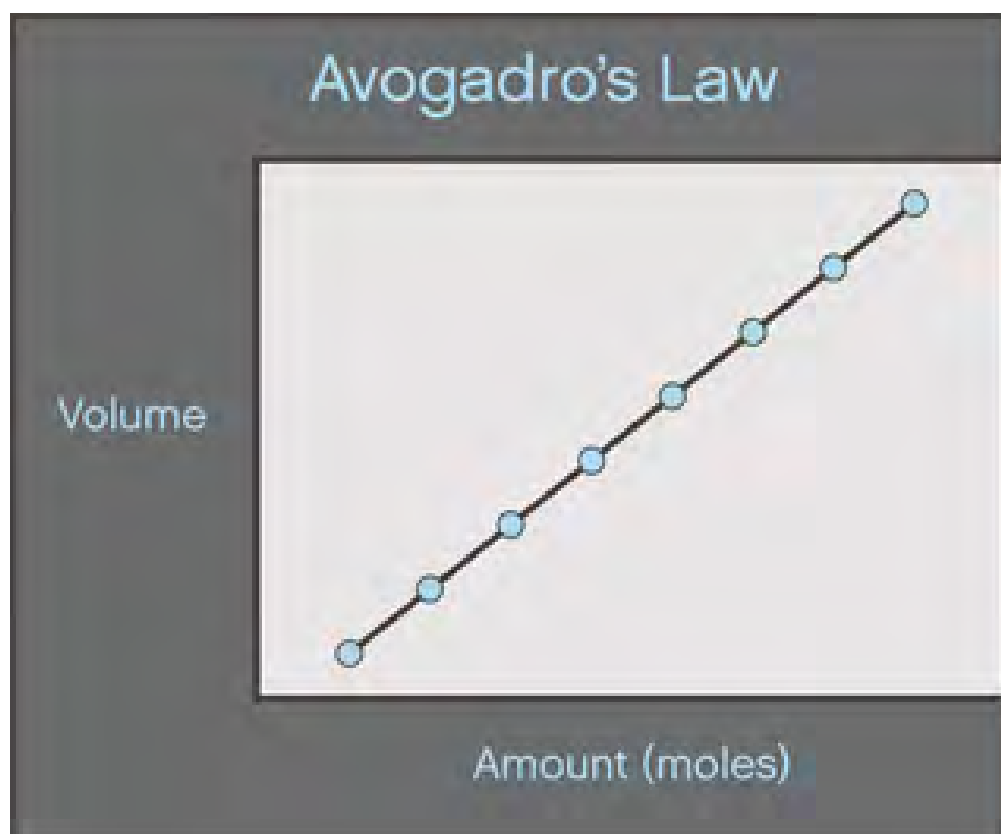

Figure 6. There is a direct relationship between volume and amount of a gas. As the volume increases, so will the number of moles of the gas.
Avogadro's Law describes the relationship between volume (V) and the amount of gas (n) (measured in moles) when pressure and temperature are held constant (Figure 6). For example, 1L of carbon dioxide will have just as many molecules in it as a liter of nitrogen. The mathematical expression of this is: